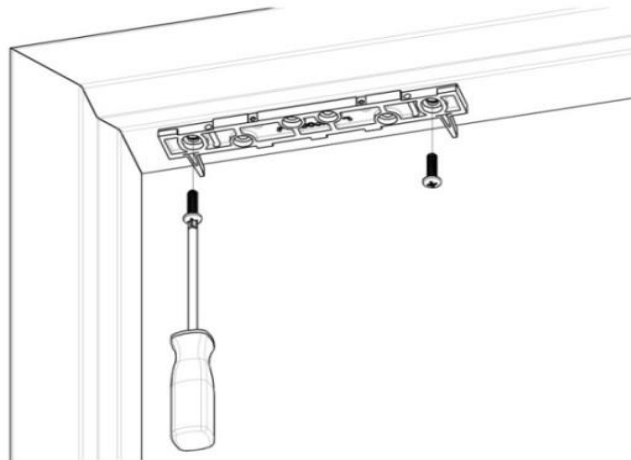

Figure 18. Installing the Bracket
4. Temporarily INSTALL the mounting bracket with template pins against the closed door using a Phillips screwdriver (see Figure 18, "Installing the Bracket").
- a. USE two (2) #12 X $1\text{-}\frac{1}{2}$ " Type A, Phillips Pan Head Screws.